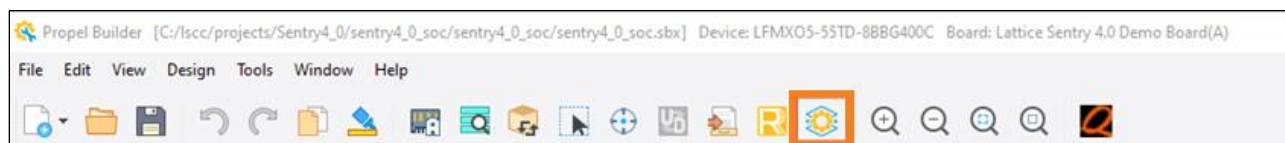

Figure 4.16. Lattice Propel SDK Icon
1. In Lattice Propel Builder, choose **Design** -> **Run Propel SDK** or click the Lattice Propel SDK icon in the ribbon to create and open the firmware project (Figure 4.16).